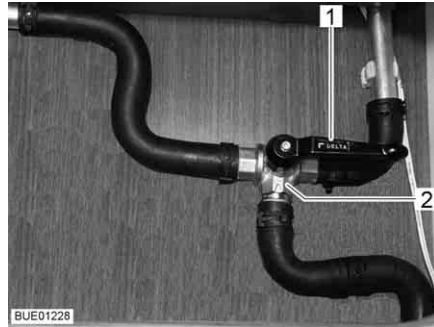

Fig. 171 3-way valve
- Set the lever (Fig. 171,1) of the 3-way valve (Fig. 171,2) parallel to the straight flow direction (Fig. 171).
- Set the lever (Fig. 171,1) of the 3-way valve (Fig. 171,2) transverse to the straight flow direction.